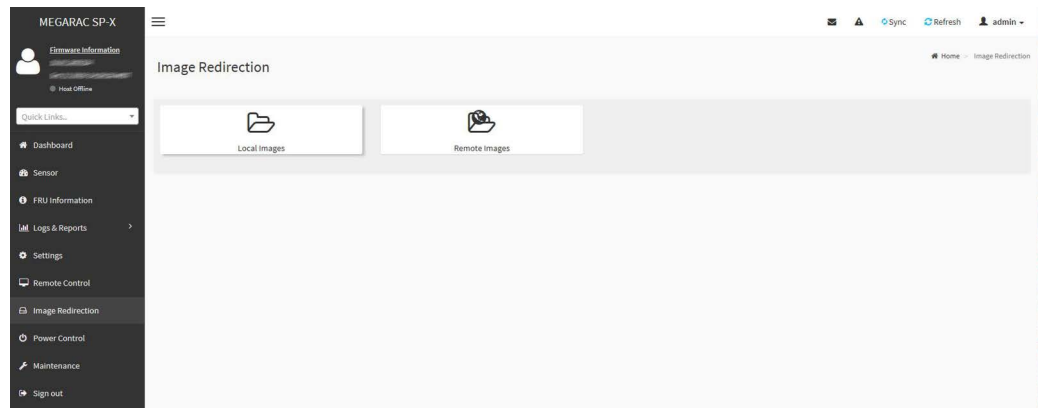

Figure 5.16 Image redirection menu
10. **Image Redirection** provides users and administrators with the ability to mount a remote disk image to the server and install software, operating systems, files, BIOS images etc. Refer to Figure 5.16 to view the image redirection menu.